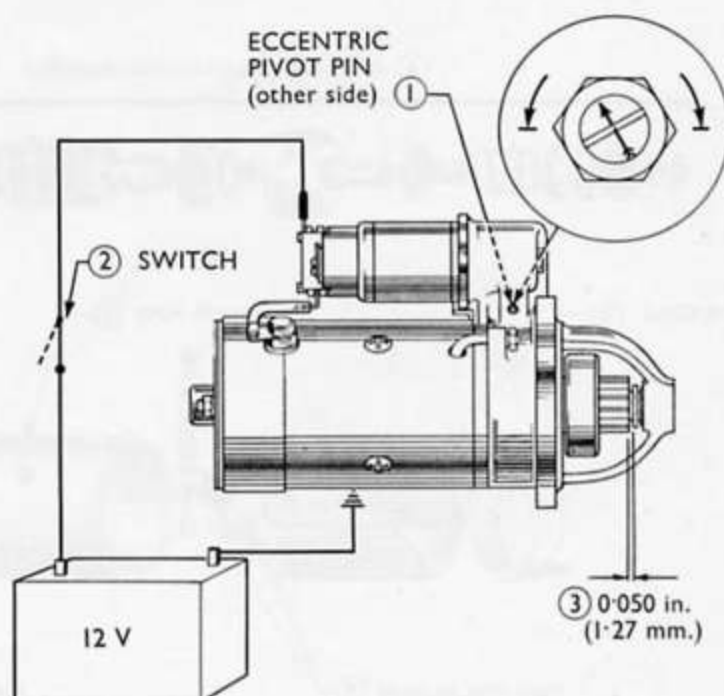

Fig. 12
1. It is first necessary to set the pinion gear travel (see Fig. 12), using the eccentric pivot pin as follows: first energise the solenoid with a 12 volt supply. Slacken the eccentric pivot pin locknut and turn the pin until the correct setting of 1.27 mm. (0.050 in.) is obtained between the pinion and thrust washer. Note that the arc of adjustment is 180° as indicated by arrows on the casing.